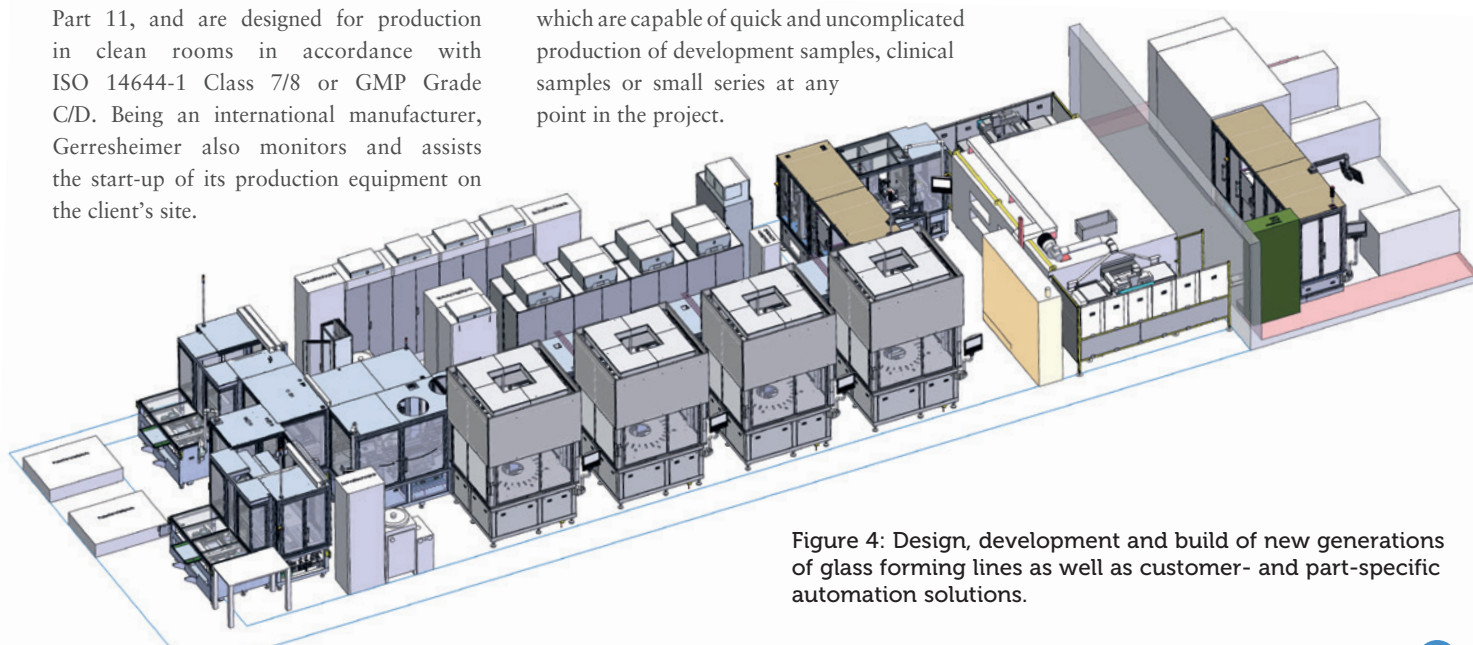

Figure 4: Design, development and build of new generations of glass forming lines as well as customer- and part-specific automation solutions.
- New generations of glass forming lines (Figure 4).